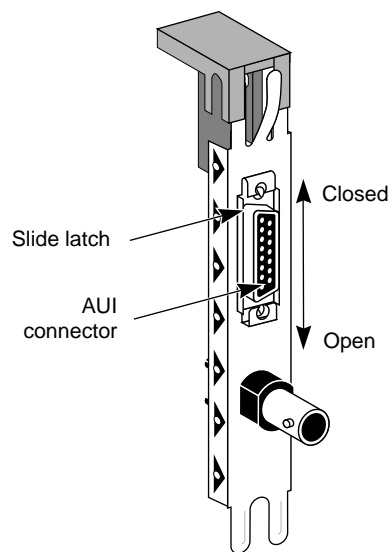

Figure 4-5. Slide Latch
1. **Locate the adapter's AUI connector and move the slide latch to the open position (see Figure 4-5).**